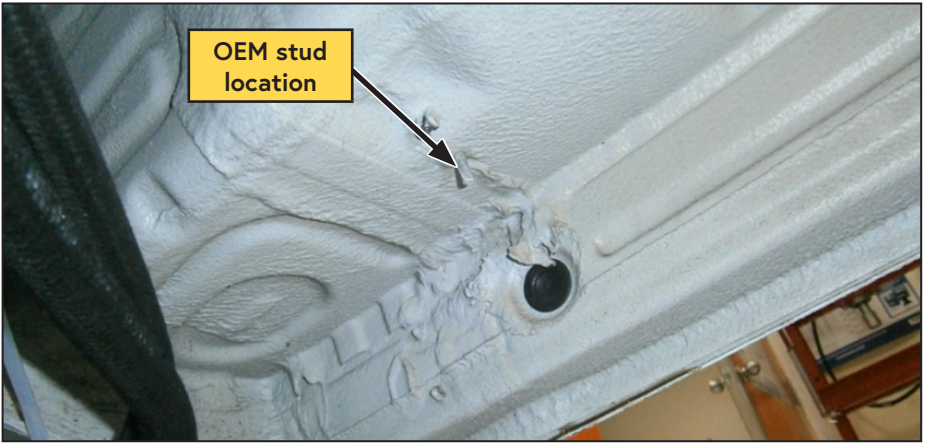

Figure 41 — Hose routing
- Locate the M6 OEM stud on the driver side of the underbody (approximately 8 inches in front of the fuel filler) (Figure 41).